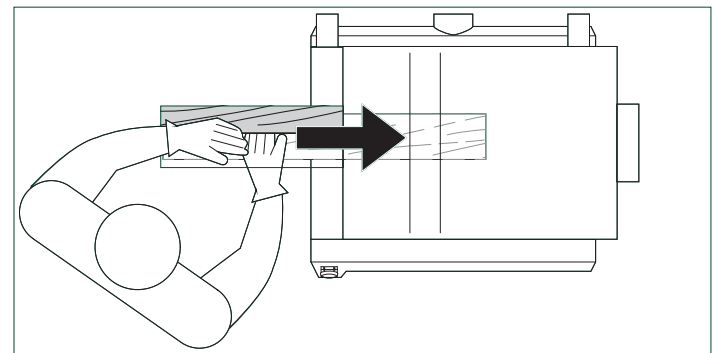

FIG.16
- to feed the workpiece into the machine, position yourself offset to one side of the feed opening.(Fig.16)